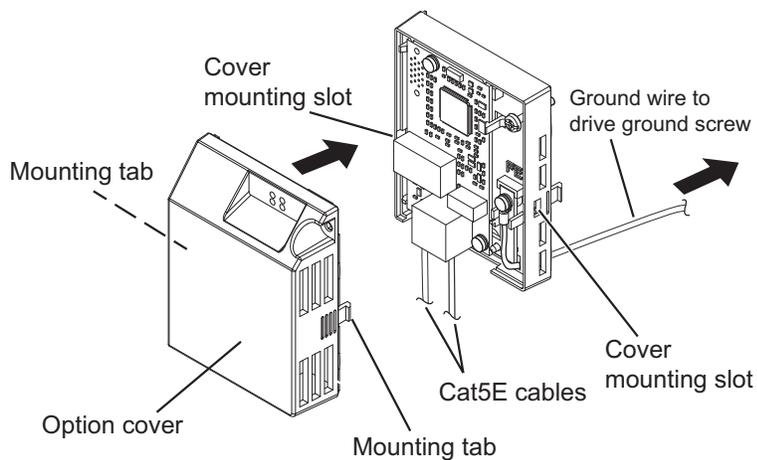

Figure 34 Attach the Option Cover
10. Attach the option cover by aligning the tabs with the mounting slots. **Figure 34.**